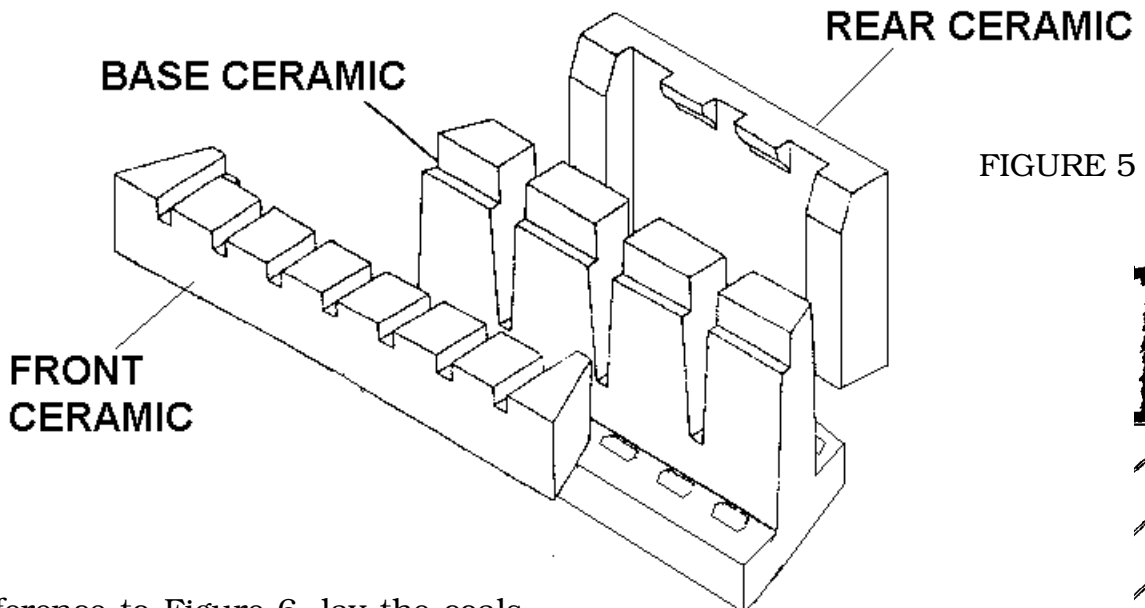

FIGURE 5
5.1. Fit the ceramic pieces into the burner unit as shown in Figure 5.